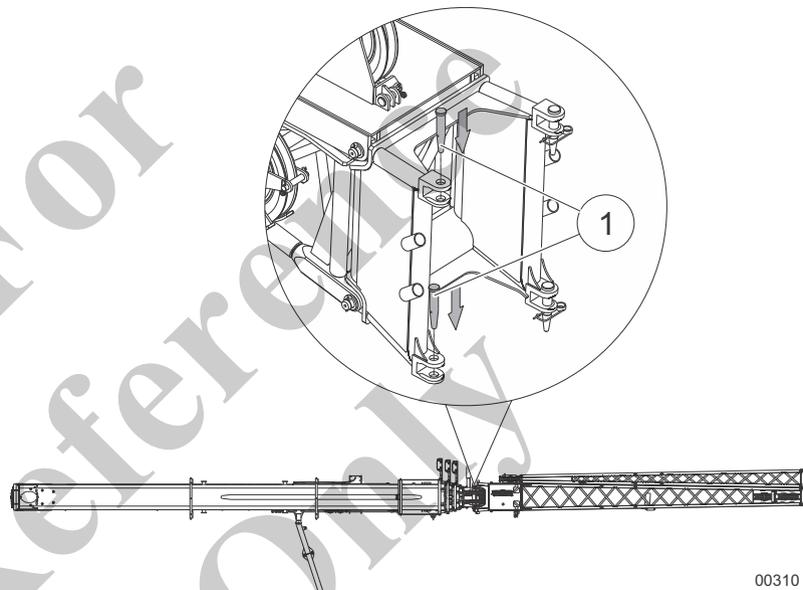

Fig. 127 Folding the fly boom into working position
- 18 Bolt and secure the fly boom to the main boom (1) in Fig. 127.